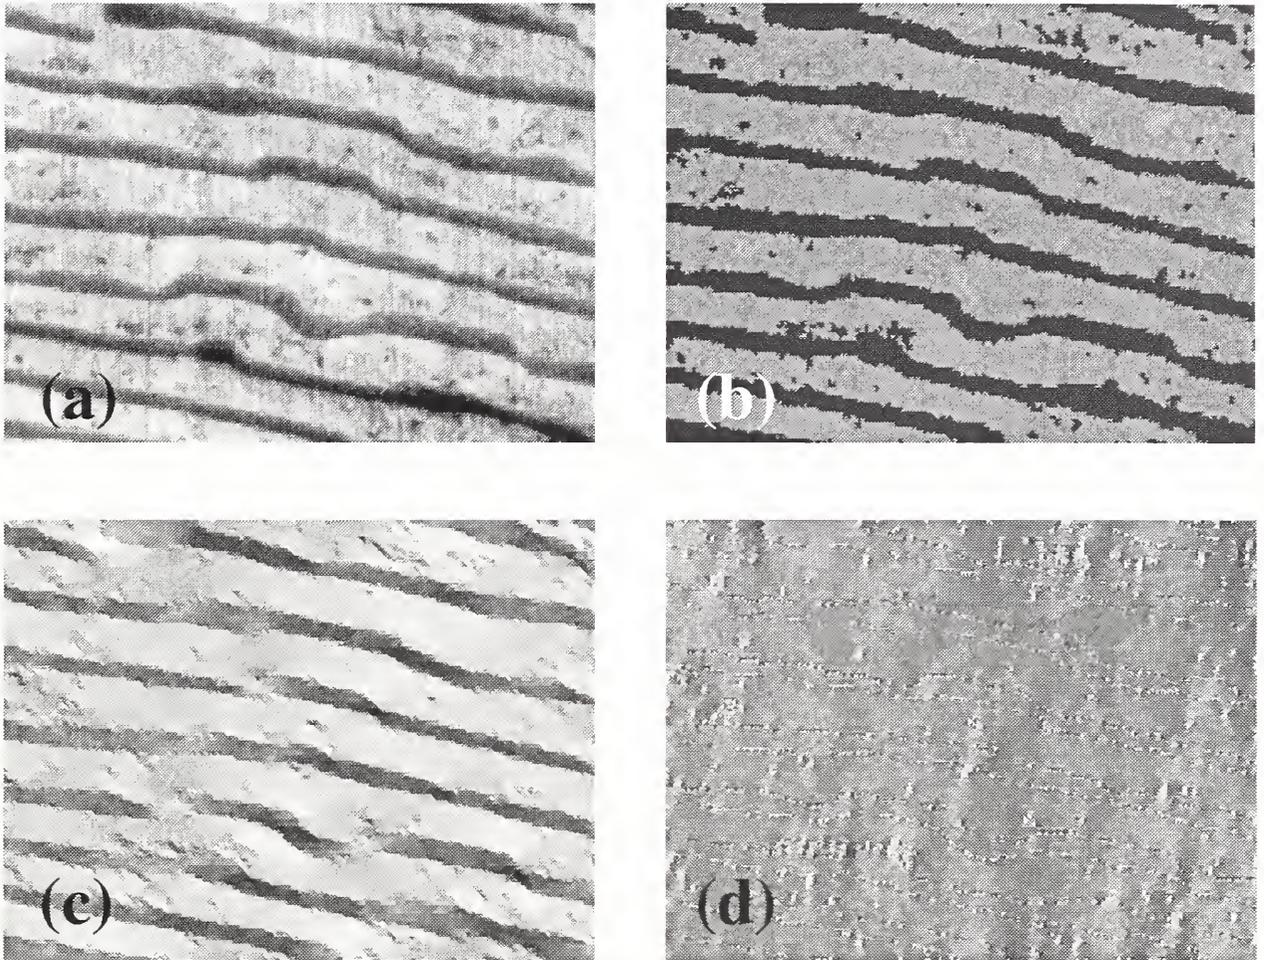
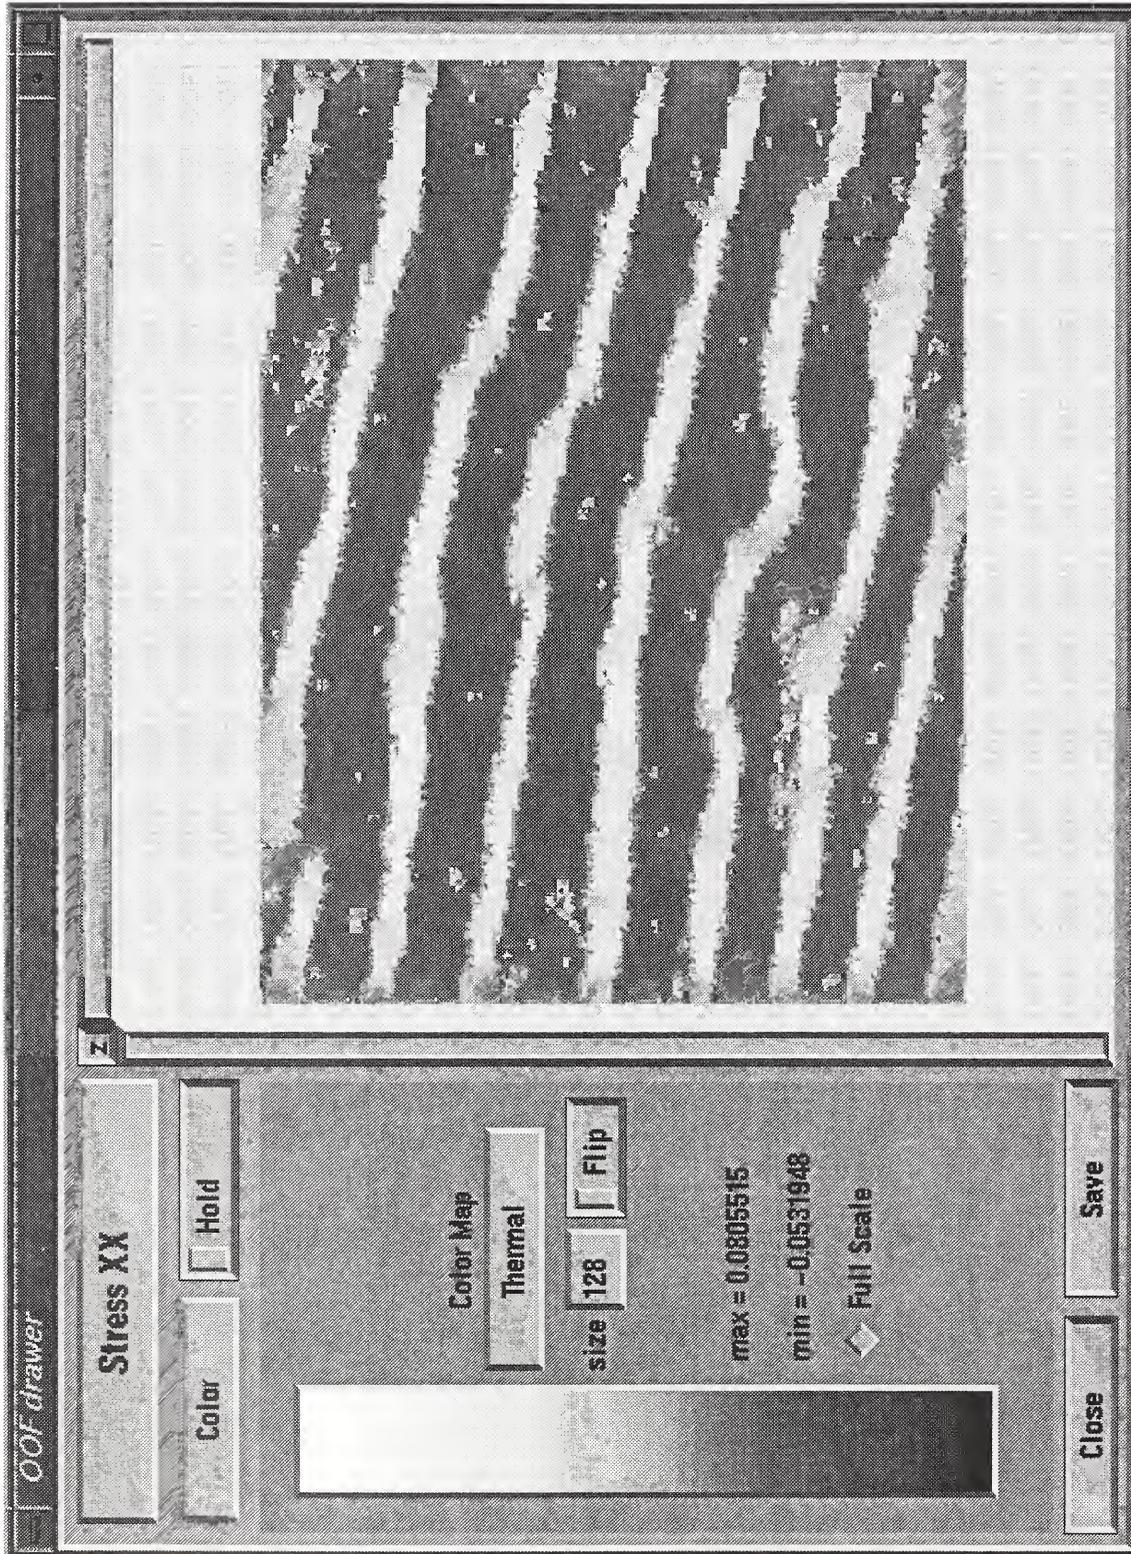

Figure 1.1: (a) A  $255 \times 190$  pixel section of a micrograph of  $\text{NiO-ZrO}_2$ , courtesy of V. David at Northwestern University.
Figure 1.7: Graphical interface (called a *Drawer*) for the stresses due to undercooling the data from Figure 1.1.
A few examples may clarify the purpose of OOF. OOF can be used to calculate the distribution of stresses in a laminar microstructure taken from a digitized optical micrograph (such as the one in Figure 1.1a). After PPM2OOF assigns material properties to the image, creates a finite element mesh, and writes the mesh to a file (the *.goof* file), OOF can be used to perform a variety of virtual mechanical tests to investigate the behavior of this microstructure. For example, in Figure 1.1 the image with its correlated properties was tested in two uniaxial strain states (the horizontal and vertical edges were each displaced normal to themselves) by the specification of boundary conditions in OOF. The elastic equilibrium solution was numerically calculated. Graphical representations of the solution for two separate components of the stress are illustrated in Figure 1.1. It is clear that that stress parallel to the layers is concentrated in the layers, whereas stress perpendicular to
The graphical interfaces6 in OOF are designed to be an intuitive means to carry out virtual experiments on the microstructure in the `.goof` files. There are two major kinds of interfaces—*Menus* are used to issue commands (*eg*, initialize the grid, apply boundary conditions), and *Drawers* are used to view the results (*eg*, stress, strain). The *main* OOF *menu* is displayed when the program is started. Figure 1.6 illustrates the prototypical Menu graphical interface. Figure 1.7 is a Drawer representing the first invariant of the stresses (the trace of the stress tensor, or the negative of the pressure) for an undercooled (reduced uniform temperature field) microstructure corresponding to Figure 1.1.
*Drawers* are windows that show pictures of the mesh and the results of the calculation. (See Figure 1.7.) The generic features of the Drawers are described here—for specific details see Chapter 5.
**Drawing Selector** This is the large rectangle at the top left (marked “Stress Invariant 1” in Figure 1.7). It is a pull down menu that controls what's being drawn. Click and drag the left mouse button on it to bring up the menu. The right mouse button will cycle through the options; the middle button will cycle through them the other way.